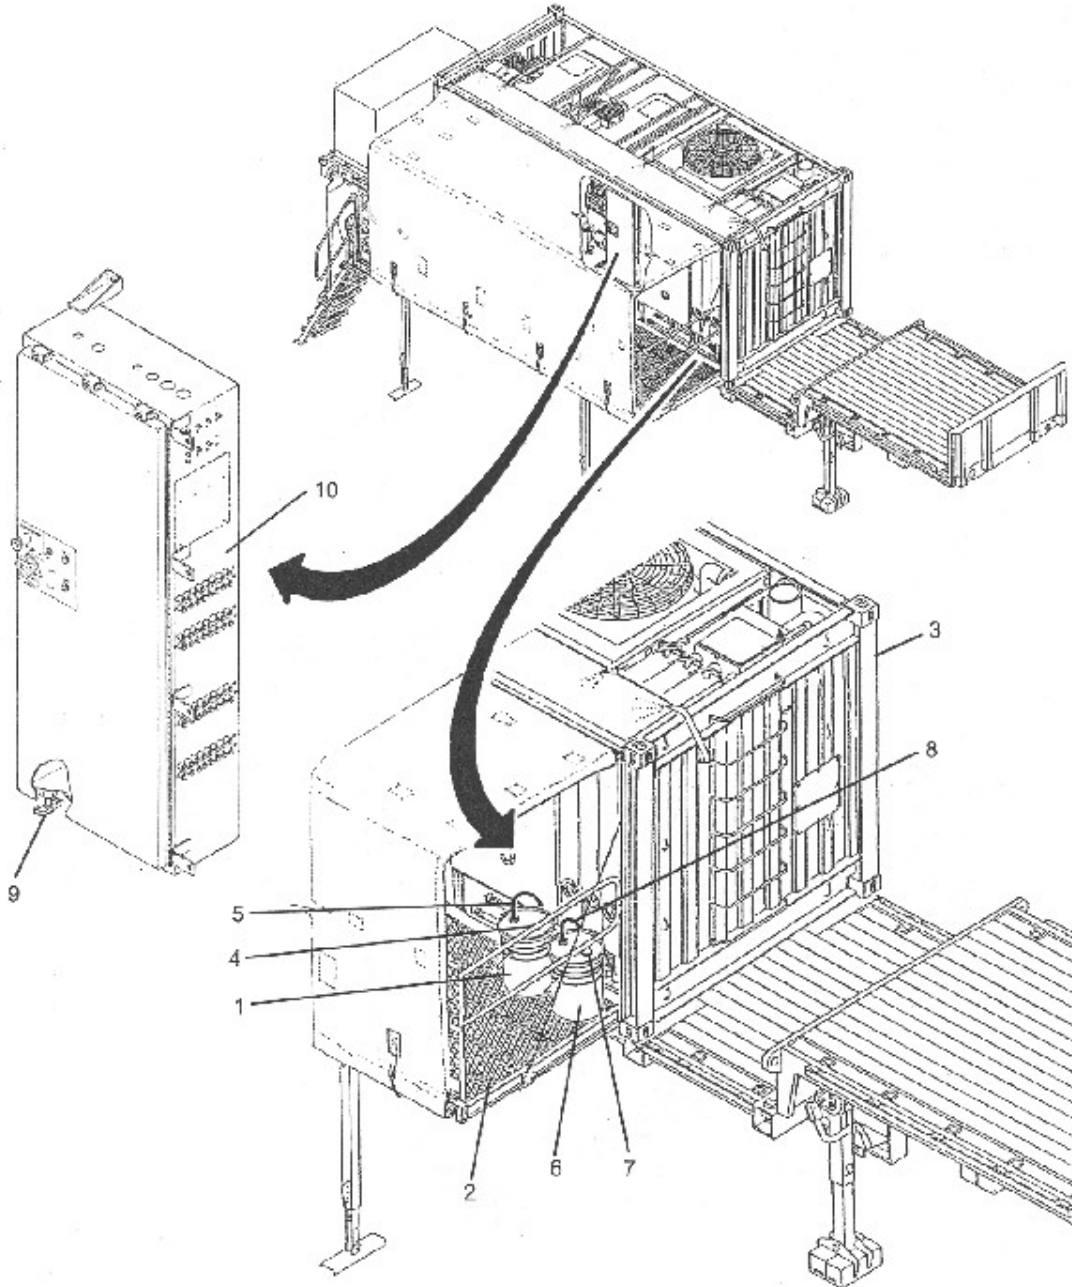

Figure 3-47
1. Shake anti-foam container (6) thoroughly to remove any clumps.
2. Place anti-foam container (6) next to detergent container (1).
3. Remove cap (7) from anti-foam container (6) and retain for later use.
4. Insert anti-foam supply tube (8) into anti-foam container (6).
5. Open petcock (9) at bottom of main control enclosure (10). (See Figure 3-47)